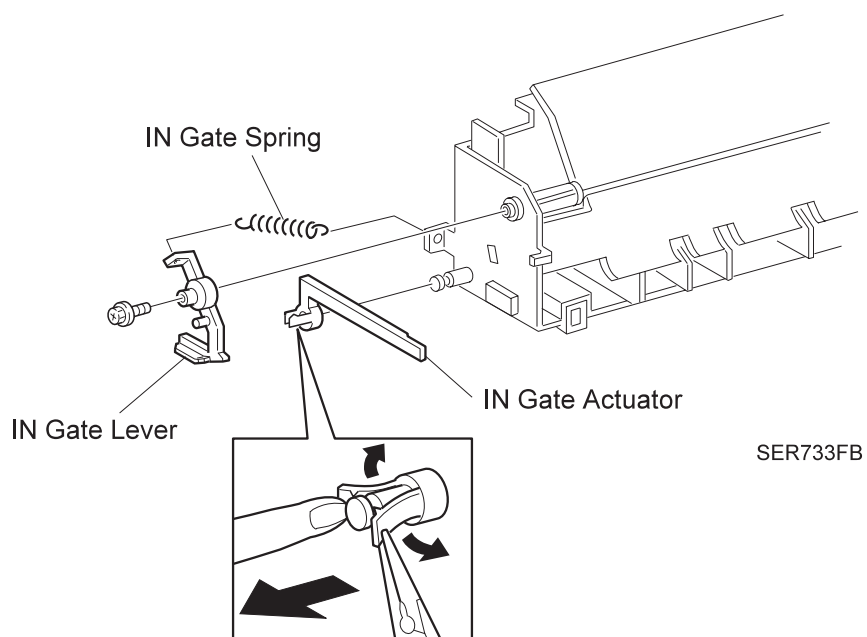

Figure 3-92. IN Gate Support Assembly
1. Place the IN Gate Actuator as shown in the Figure 3-92.